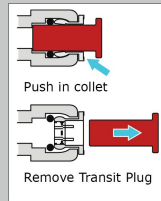

Fig 1
- Remove the transit plug from the water inlet connection (fig 1)